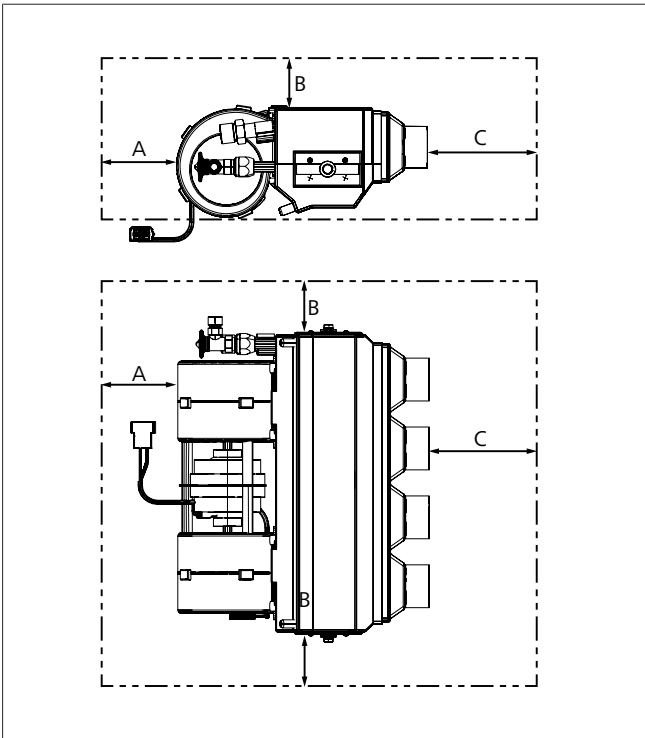

Fig. 13 Minimum clearance
- Observe the minimum distances according to Fig. 13.